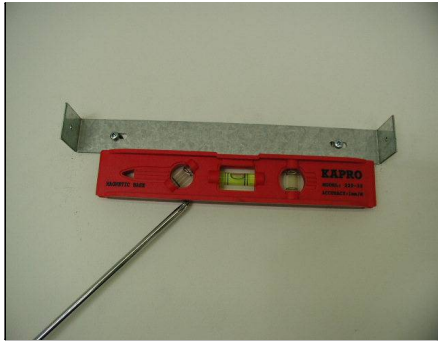

Figure 7
10. Secure the duct cover-mounting bracket to the wall with two screws (not provided). Refer to Figure 7. Make sure all screws are tightened. NOTE: Inner duct cover will cover the duct cover-mounting bracket.